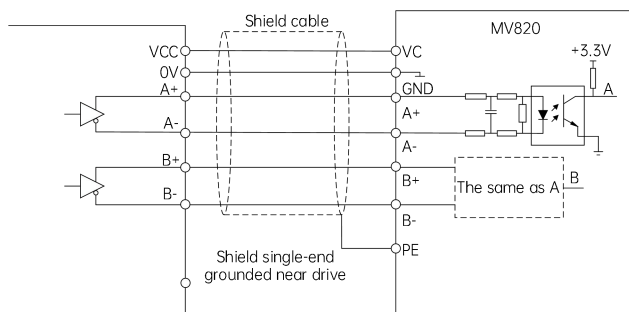

Fig. 4-22 Wiring diagram for differential signal PG
- (3) When the PG output signal is a differential signal, the wiring with the interface board is as shown in Fig. 4-22: